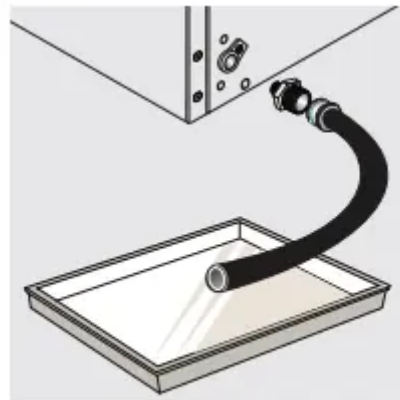

Figure 1D
- Place a shallow pan under the drain tube. Defrost water will drain out. Check pan occasionally so water does not overflow. A ½ inch garden hose adapter can be used to drain the freezer directly into a floor drain. If your model is not equipped with an adapter, one can be purchased at most hardware stores (see figure 1D). Replace the drain plug when defrosting and cleaning are completed. If the drain is left open, warm air may enter freezer.